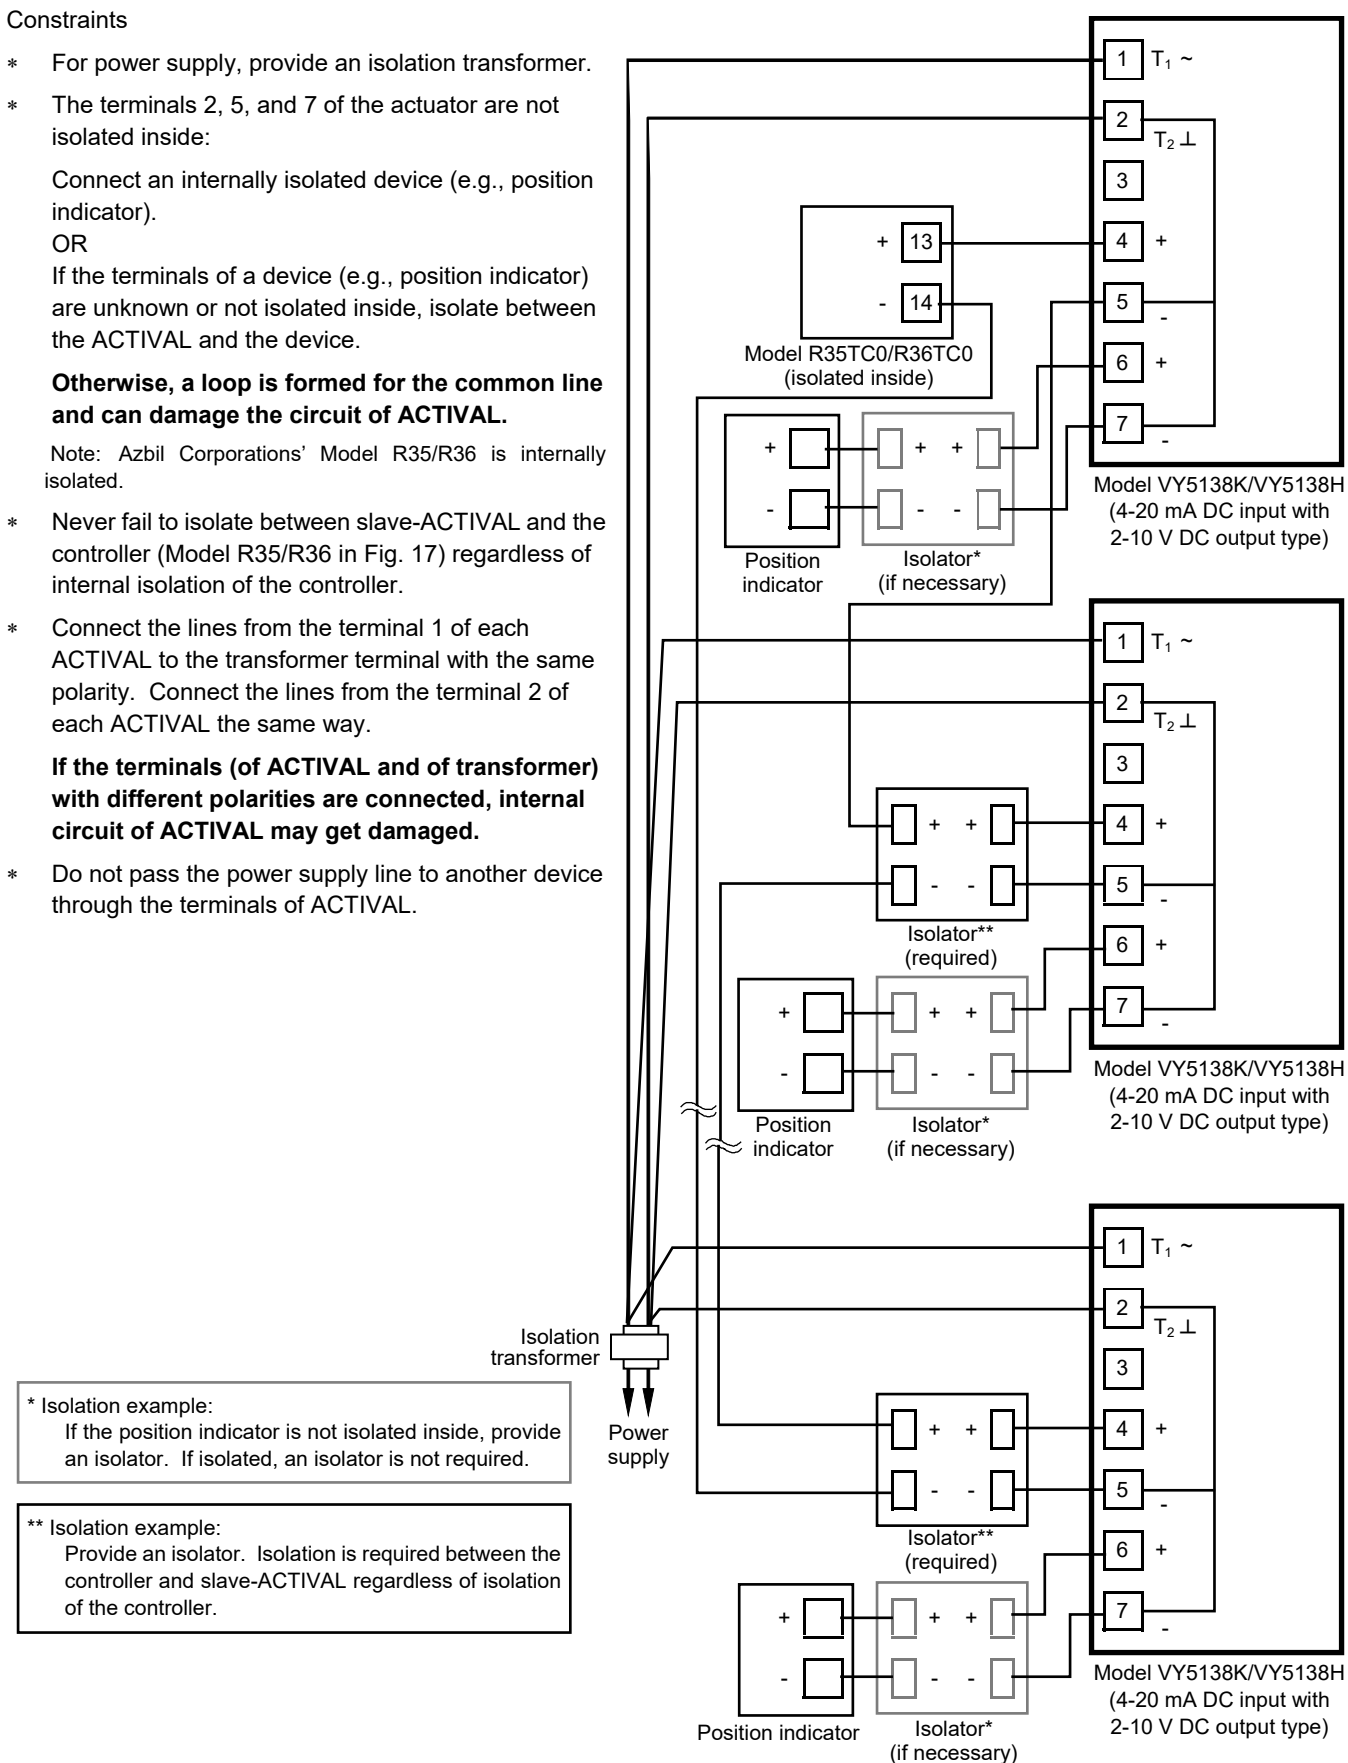

Figure 17. Connection example (3):
- \* Never fail to isolate between slave-ACTIVAL and the controller (Model R35/R36 in Fig. 17) regardless of internal isolation of the controller.